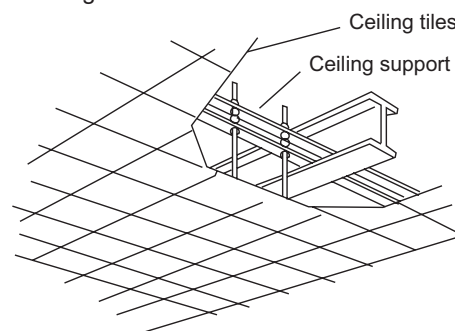

Fig. 2-149
- Use existing ceiling supports or construct a suitable support as shown in Fig. 2-149.